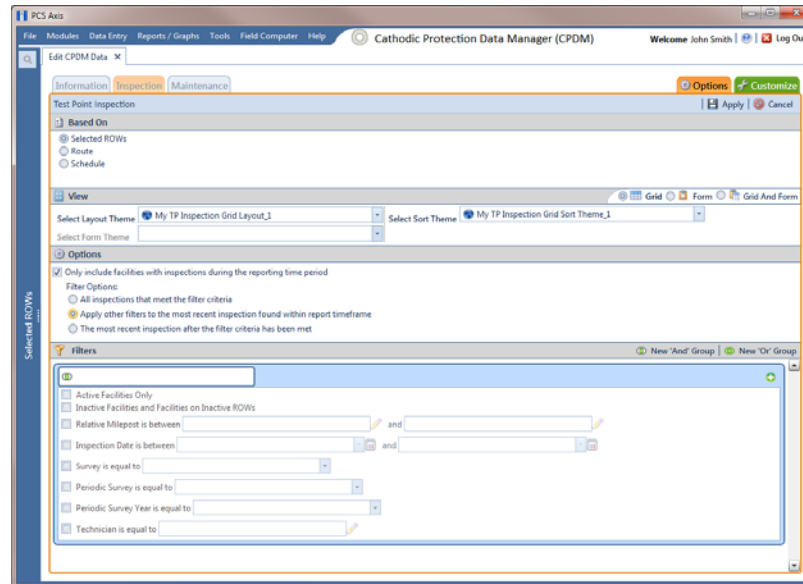

Figure 7-88. Options
- a Click the **Options** tab  to open the options page (Figure 7-88, page 303).